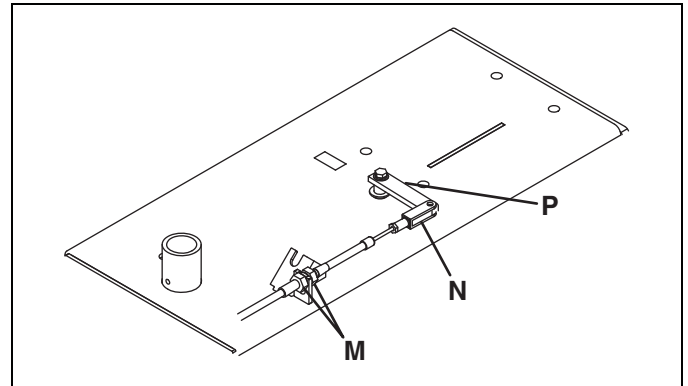

Figure 6E
7. Rotate left crankshaft sprocket **(K)** until the timing marks are vertical and dot is towards the ground. [See Figure 6E]